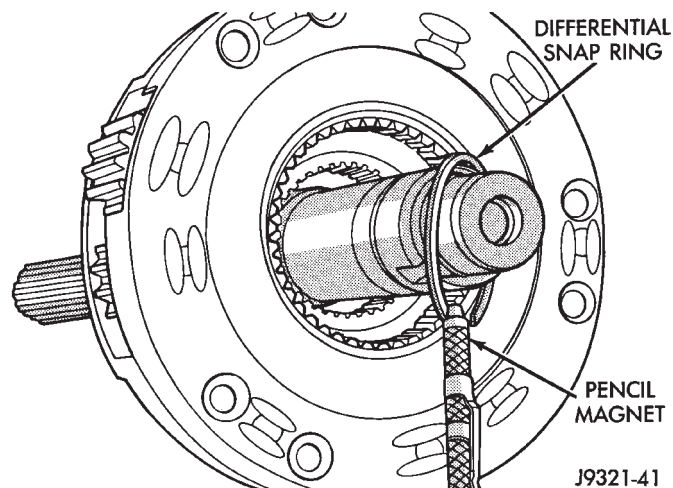

Fig. 41 Removing Differential Snap Ring
(5) Retrieve snap ring from shaft and interior of differential with pencil magnet (Fig. 41).
(6) Position drain pan or shop towels under differential and mainshaft. Pan or towels will help catch and retain mainshaft needle bearings when differential is removed from shaft.